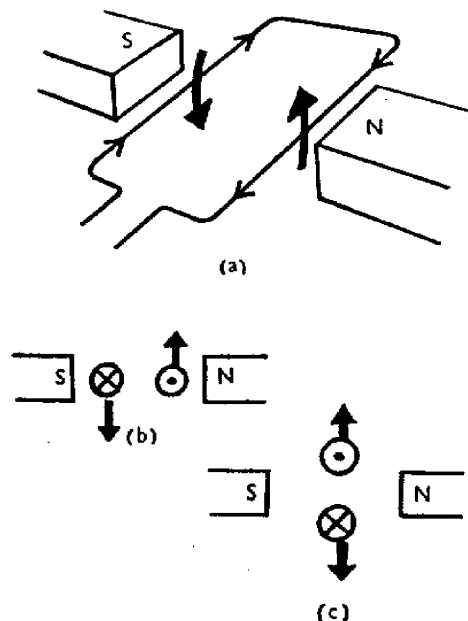

Fig. 329
If a rectangular coil is placed between the poles of a horse-shoe magnet as shown in Fig. 329(a) and (b) it will tend to move in the direction indicated. Having rotated through 90° to position (c) the coil will tend to stop. Why? (6) Can you think of a way to cause the coil to rotate a further 180° assuming it overshoot position (c) very slightly? (7) How could the coil be made to rotate continuously? (8) To answer these questions you should build a simple electric motor.